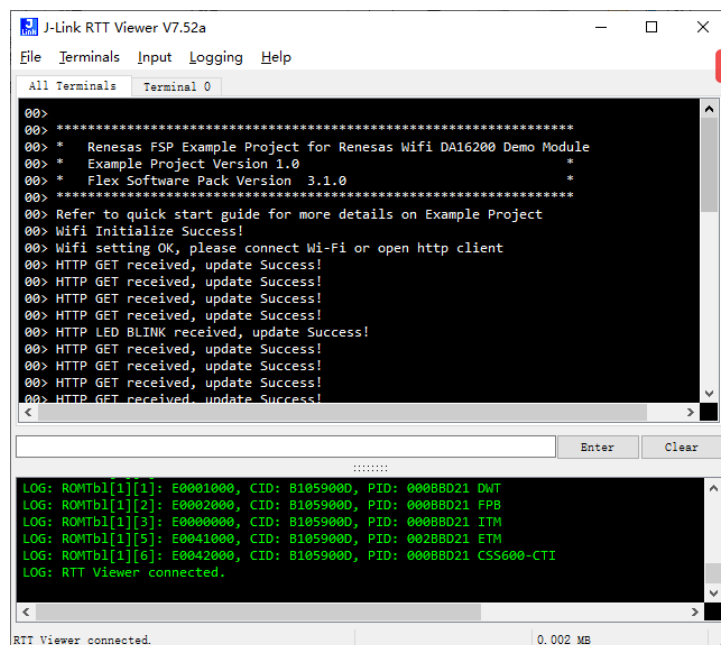

Figure 5. Wifi Operation View
- After **Wifi setting OK**, please connect Wi-Fi or open http client appears in Figure 5, find **Renesas\_Wifi** in the wireless network and enter the network security key of **12345678**, finishing the connection between PC or smartphone with this solution kit.